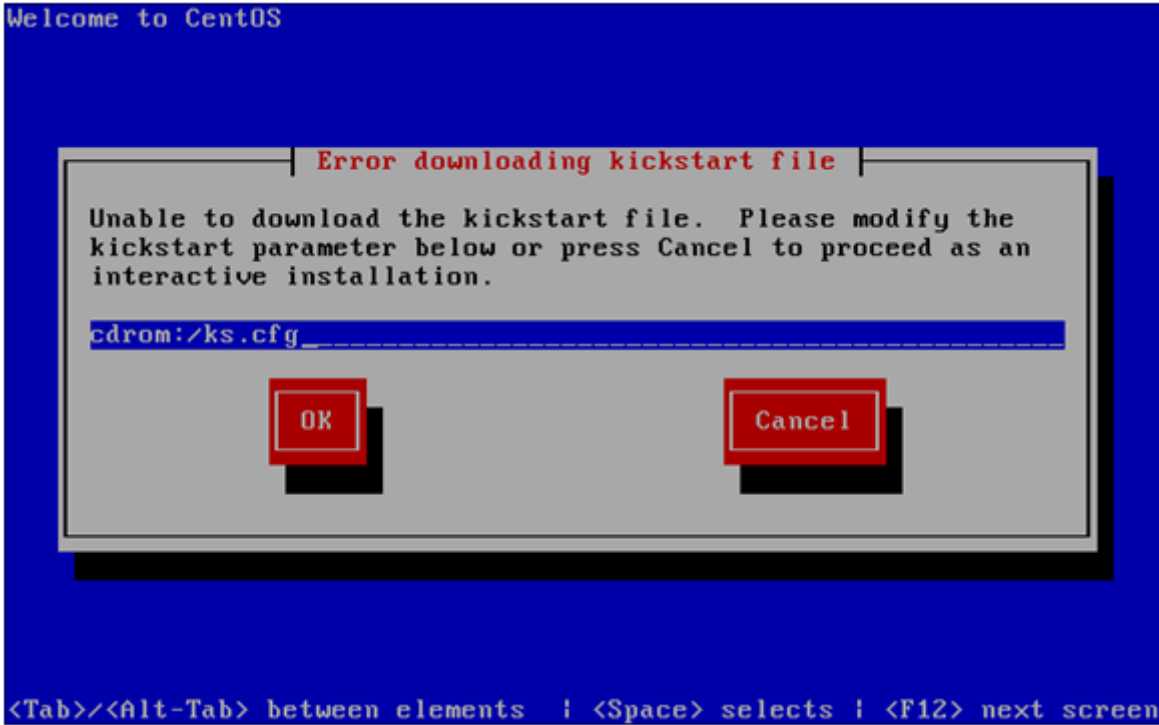

Figure 9: kickstart file error.
6. Depending on USB flash drive type, following error message can appear for some USB flash drives (Figure 9). Do not make any changes and press Ok on this screen: